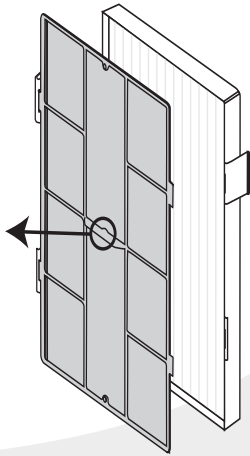

FIG. 34
5. **Pull** the tab on the center of the pre-filter to **separate** it from the old HEPA filter (Fig.34). **Discard** the old HEPA filter.